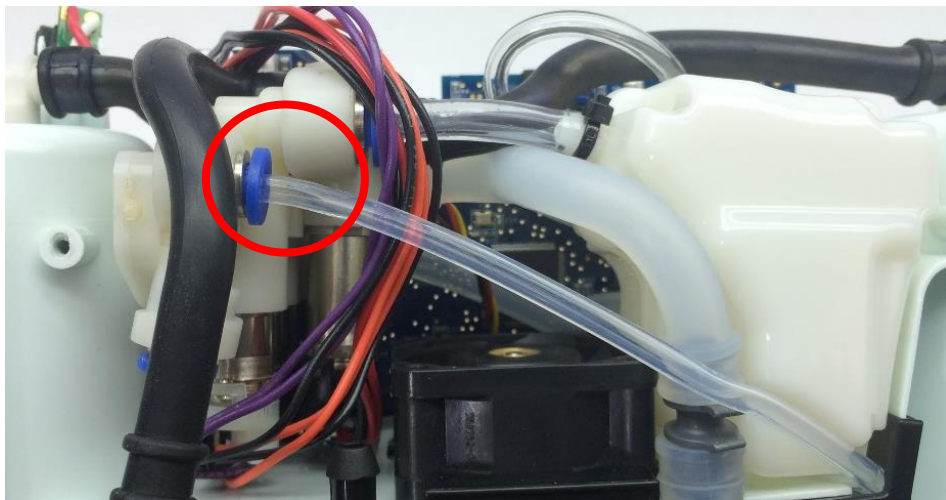

Figure 7: Exhaust Tube and Column Tube
3. Locate the column tube attached to the Product Manifold. Release the Column B Tube from its quick connect by pushing down on the retaining ring while pulling on the tubing. (Figure 7).